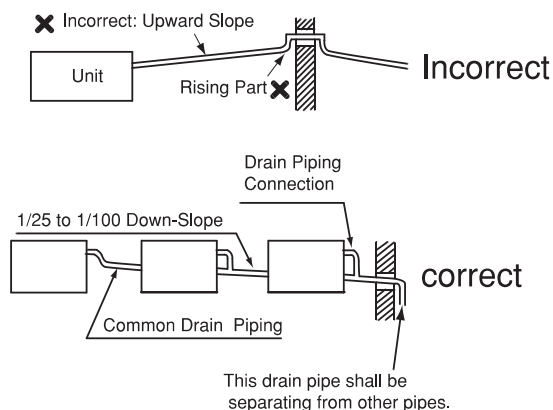

Fig. 6.1 Drain Piping
- (1) The position of the drain piping connection is shown in Fig. 6.1.
- (2) Prepare polyvinyl chloride pipe with a 32mm outer diameter.
- (3) Fasten the tube to the drain hose with the adhesive agent and the factory-supplied clamp. The drain piping must be performed with a DOWN-SLOPE pitch of 1/25 to 1/100.
- (4) Insulate the drain pipe after connecting the drain hose.